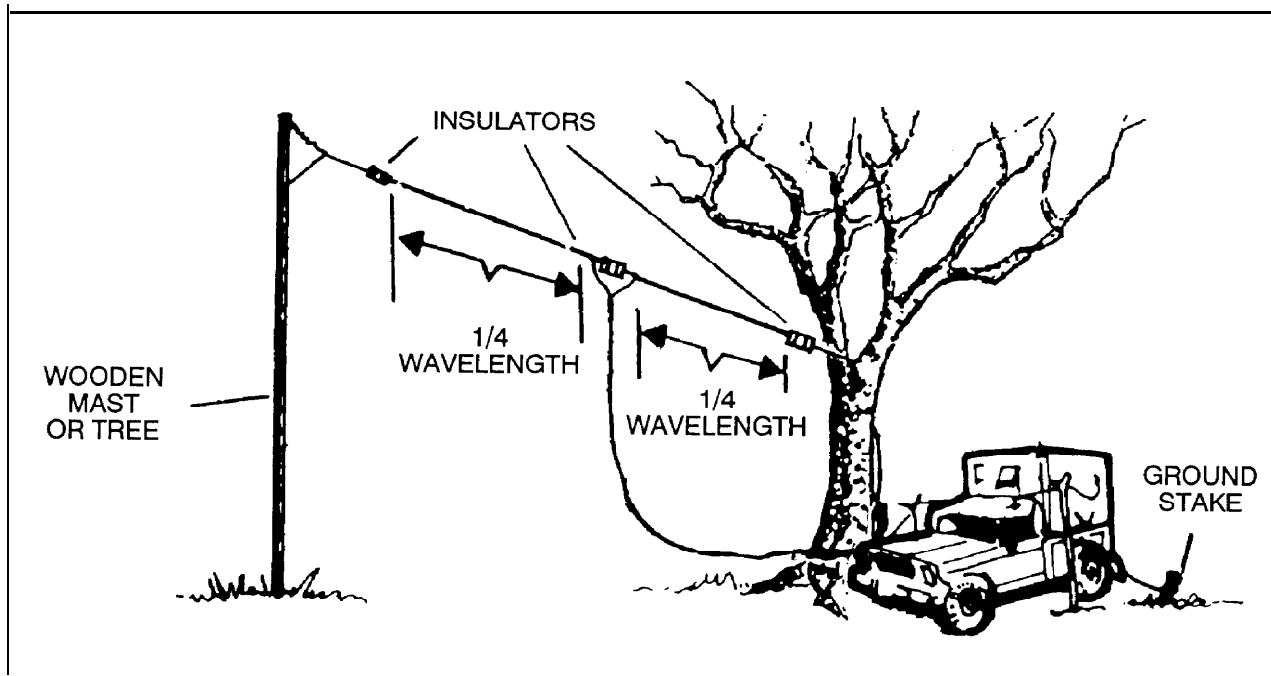

Figure D-9. Half-wave dipole antenna.
(1) Ground-wave propagation requires low takeoff angles and vertically polarized antennas. The whip antenna provides good omnidirectional ground-wave radiation. If a directional antenna is needed, the operator selects one with a good low-angle vertical radiation.
(2) Sky-wave propagation makes the selection of an antenna more complex. The first step is to find the distance between radio stations so that the required takeoff angle can be determined. The takeoff angle versus the distance tables gives approximate takeoff angles for day and night sky-wave propagation. If the circuit distance is 966 kilometers (600 miles) during the day, the required takeoff angle is about 25 degrees. At night, it is 40 degrees. Therefore, the operator selects an antenna that has high gain from 25 to 40 degrees. This step can be omitted if the propagation predictions give the required takeoff angles. By subtracting 20 percent from these predictions for use with NVIS constructed antennas, the operator uses a planning range of 0 to 300 miles for short-range HF communication.
(3) The radio operator decides what type of coverage is required. If the radio circuit consists of mobile (vehicular) stations or many stations at different directions from the transmitter, an omnidirectional antenna is required. If the circuit is point to point, a bidirectional or a directional antenna can be used. Normally, the receiving station locations dictate this choice.
(4) Before an antenna can be selected, the operator examines the materials available for antenna construction. If a horizontal dipole is to be erected, at least two supports are needed. (A third support in the middle is required for frequencies of 5 MHz or less.) If these supports are not available and there are no other items that can be used as supports, the dipole cannot be used. The operator checks the site of the antenna to determine if the proposed antenna will fit.
(5) Another consideration is the site itself. More times than not, the tactical situation determines the position of the communication antennas. The ideal setting is a clear flat area with no trees, buildings, fences, power lines, or mountains. Unfortunately, such an ideal location is seldom available for the tactical communicator. In choosing an antenna site, the radio operator selects an area as flat and as clear as possible. In many situations, an antenna must be put up in less ideal sites. This does not mean that the antenna will not work, but that the site affects the pattern and functioning of the antenna.
f. **Half-Wave Dipole Antenna.** The half-wave dipole is a balanced resonant antenna (Figure D-9, page D-12). It produces its maximum gain for a narrow range of frequencies, normally 2 percent above and below the design frequency. Since frequency assignments are normally several megahertz apart,